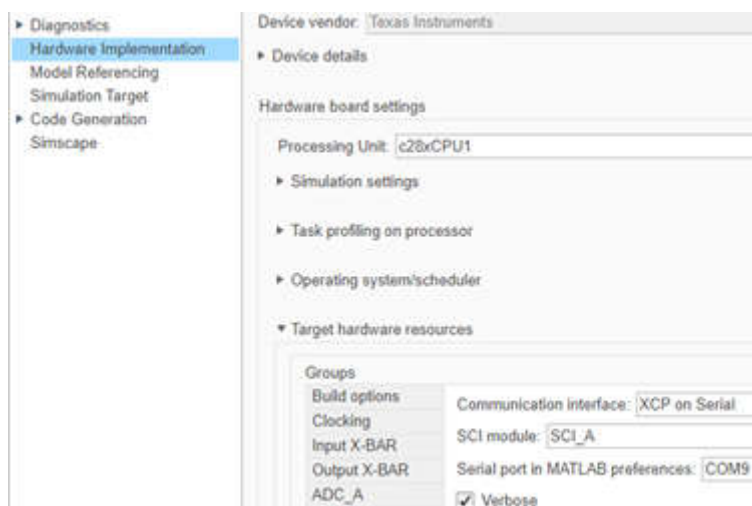

Figure 2-5. Update the COM Port Number in the Configuration Parameters
Step 7: Press *CTRL + E* to open the *Configuration Parameters* and select the right Serial PORT in “Hardware Implementation >> Target hardware resources >> External mode for Serial port in MATLAB preference (Figure 2-5)